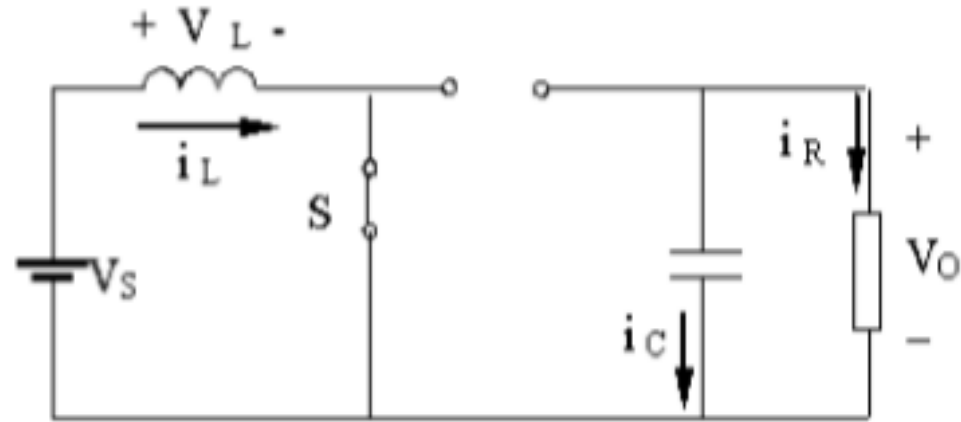

Fig. 6.6-Boost Converter: Mode 1
- In this mode, the switch is closed and the freewheeling diode is reverse biased by  $V_o$ . The equivalent circuit for this mode is given in Fig. 6.6.